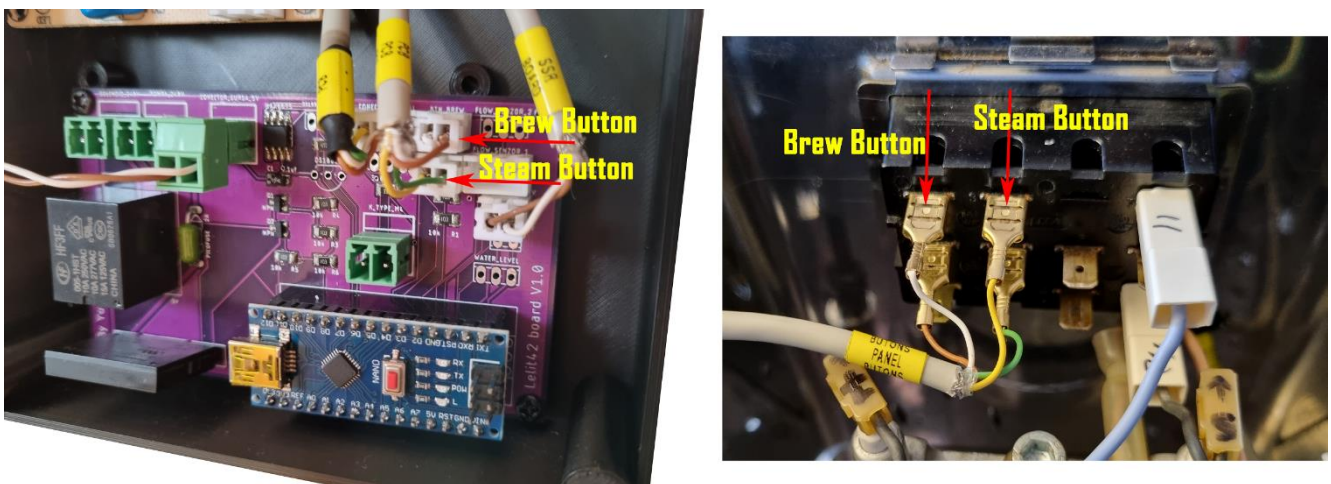

Fig. 7.1
- Take the BUTTON CABLE from the package and make connection between buttons panel and the main board. Pay attention to the wire colours because you need to connect 1 brew plug and 1 steam plug to the main board as specified in fig. 7.1 and the corresponding ends to brew button and steam button. Keep the same colours from the board to the panel for the same button.